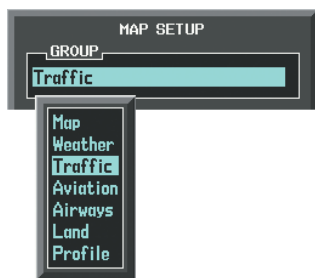

Figure 6-186 Navigation Map Page Setup Menu
- 4) Turn the small **FMS** Knob to select the Traffic Group and press the **ENT** Key (Figure 6-186).